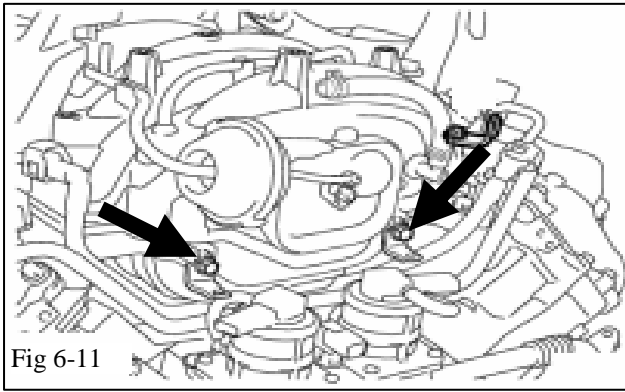

Fig 6-11
- (l) Remove the 2 harness clips from the back of the intake manifold. These will be reused in step 12 (b). (Fig. 6-11)